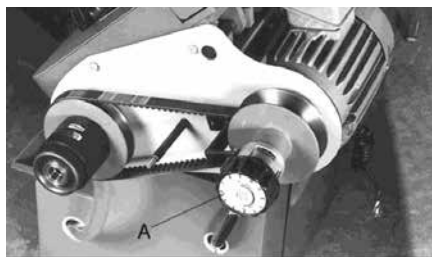

**Figure 5. Start Button (A) and Stop Button (B)**
The saw frame must be in the raised position before starting the machine. The machine is started by pushing the start button (A) Figure 5, and will continue to run until the saw frame is in the down position at the end of the cut, or when the stop button (B) is pushed.